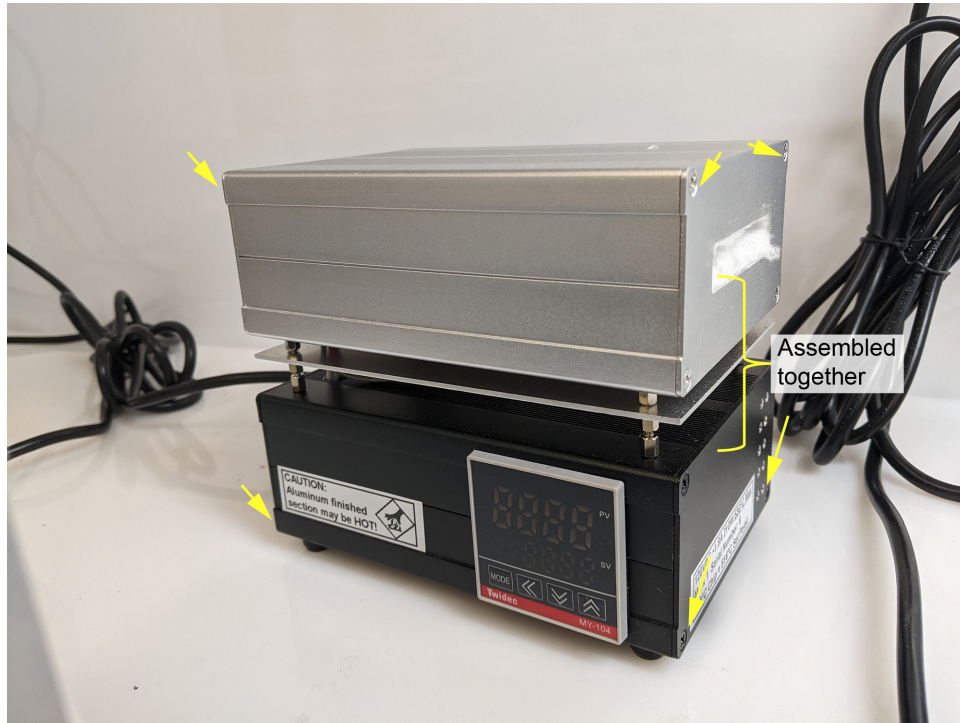

Figure 17.—Completed assembly of control electronics and oven.
- See Figure 17 for the completed assembly.